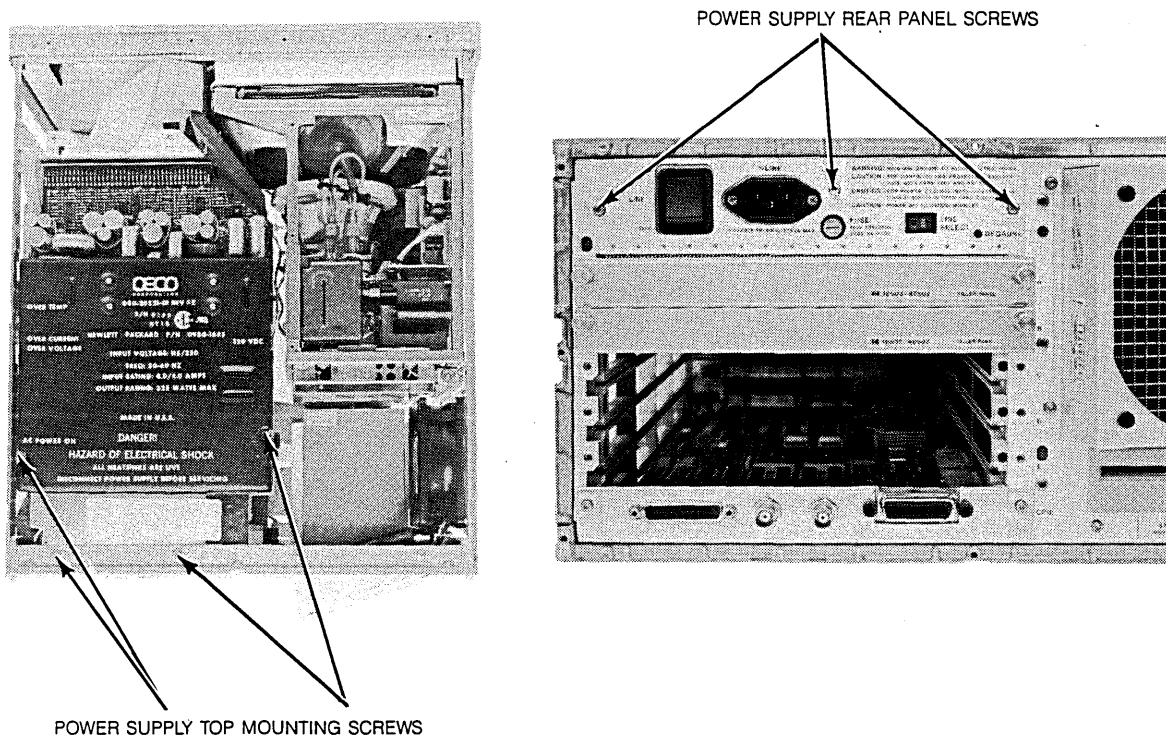

Figure 6-36. Power Supply Hardware Identification
- b. Remove power supply rear panel and the four power supply mounting screws. Refer to figure 6-36 for power supply hardware identification. Pull power supply toward rear panel to disconnect it from motherboard.
- d. Remove the two microprocessor mounting screws and gently slide the board out of the mainframe (see figure 6-36).